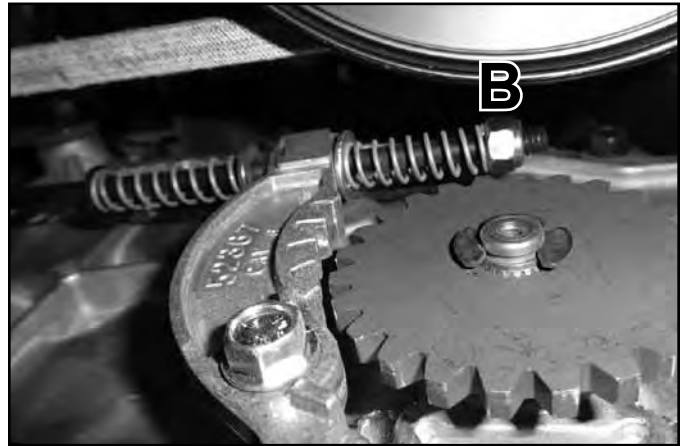

Fig. 062
All TimeCutter SS, ZS and MX 42” models – Remove the nut (B), spring and washer. Remove the brake rod from the unit (Fig. 062).